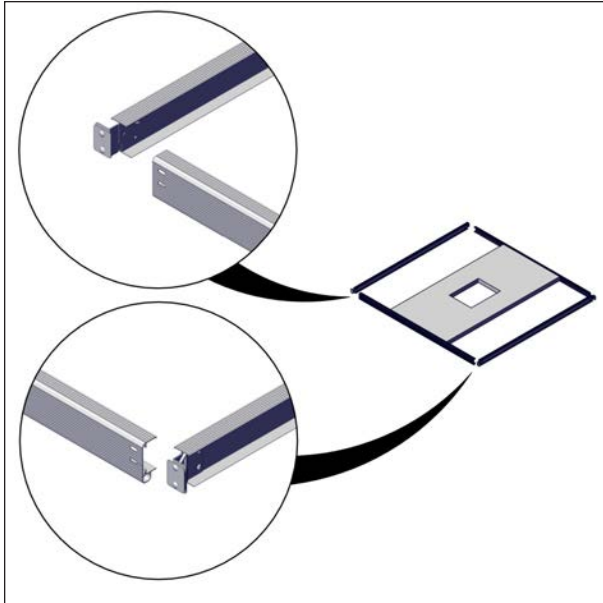
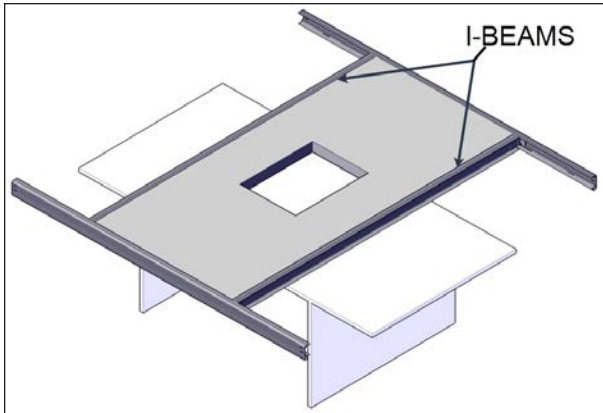
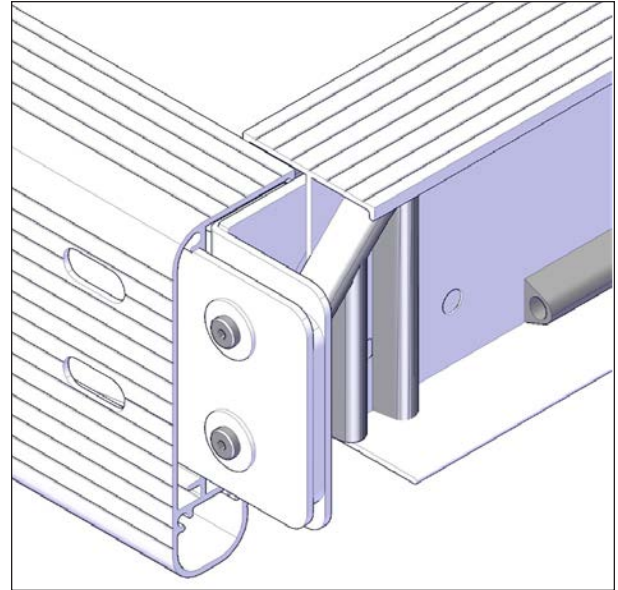

FIGURE 37: SLIDE WITH LIP OUTWARD
FIGURE 38: I-BEAM FINAL POSITIONS
FIGURE 39: C-CHANNELS / I-BEAM INSTALLATION
3. Slide one I-beam with short I to C connection plates in the C-channels on both sides of the middle panel. Install the I-beams in such manner where the bent portion of I to C connection is pointing outwards see Figure 37, Figure 38 and Figure 39.